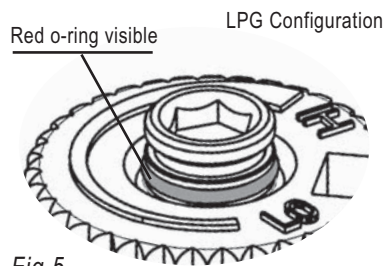

Fig. 5
- 13) Verify that if the conversion is from NG to LPG, the screw must be re-assembled with the red o-ring visible (Fig. 5).